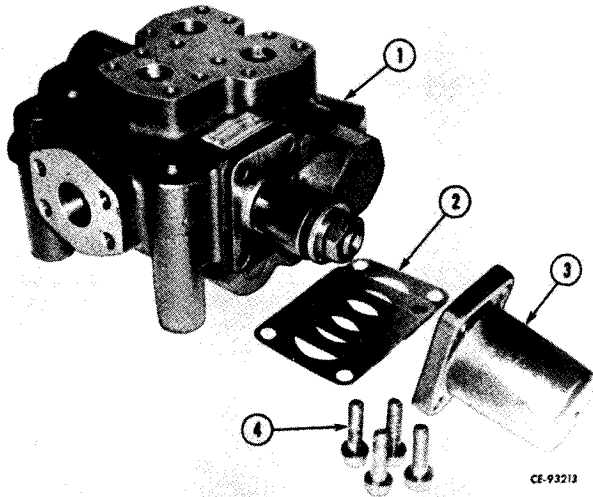

Figure 11-92
Install the shim pack (2, Fig. 11-92) and cap (3). Secure with the cap screws (4). Refer to "SPECIAL TORQUES" for correct torque.